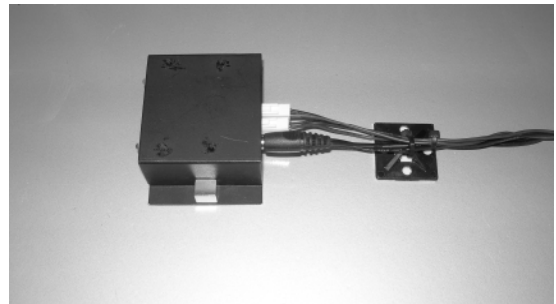

Fig. 9
3. Place the thermal switch assembly on the hottest part of the piece of equipment which runs the hottest in normal operation. Small magnets on the side flanges of the thermal switch assembly's metal cover will hold it firmly in place on equipment with steel covers. Some equipment may use aluminum covers; in this case, use the wire ties and wire tie anchors near the thermal switch assembly to keep the assembly in place, as shown in Figure 9. The printed circuit board within the thermal switch assembly is free to "float" up and down a small amount so that the thermal switch will always touch the top of the equipment being monitored despite small manufacturing variances.